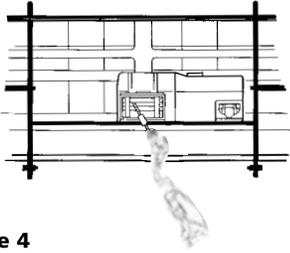

Figure 4
7. NEVER WINCH WITH LESS THAN 5 TURNS of wire rope AROUND THE WINCH DRUM since the wire rope end fastener will NOT withstand a load. ALWAYS USE THE HANDSAVER when guiding the wire rope in or out (see Figure 4).